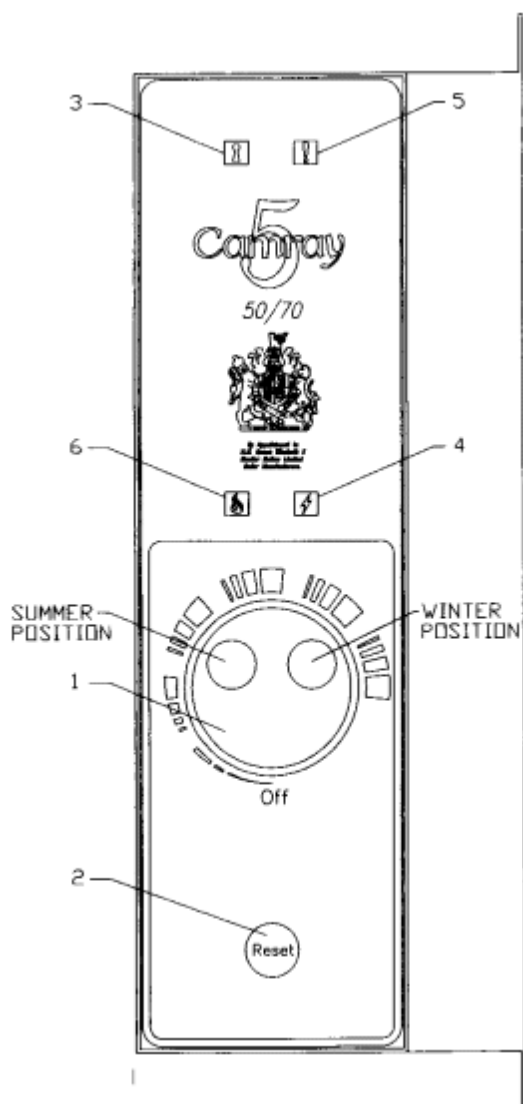

Fig. 1
Boiler Control Panel (see fig 1)
SUMMER HOT WATER ONLY SEE FIG 1
Should this occur, the red limit indicator on the Control Panel will be illuminated. Wait for the Boiler to cool, and then reset the thermostat by pressing the limit thermostat reset button located under the Control thermostat - see fig 1.
2. Make sure the Boiler Control Thermostat is set within the recommended range (see fig 1) and that the mains electricity and oil are turned on.